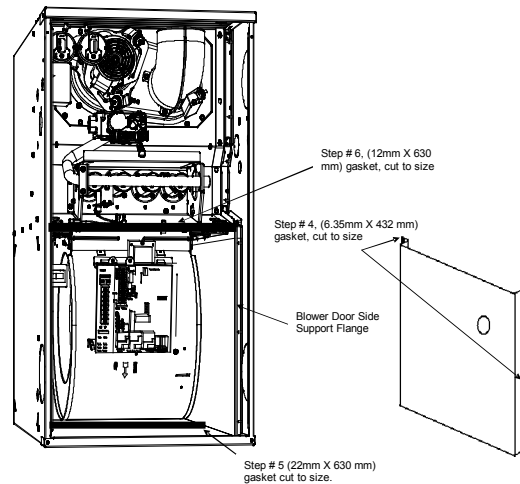

Fig. 1 - Gasket Placement
3. Remove the blower door side support flanges by removing three screws on the side of the casing. (See Fig. 1).
4. Peel paper backing from the two 1/4" x 17" (6.4mm x 432mm) foam strips and apply the gasket to the blower door edges facing towards the furnace such that the gasket is sandwiched between the door and the door supports. Cut the edges if necessary. (See Fig. 1).
backing from foam strip and apply to the bottom plate of the furnace. (See Fig. 1).
6. Cut 3 1/64" x 24 3/4" (12mm x 630mm) V notched foam strip to fit the width of the cell panel. The V notches may be used as a reference for various casing widths. Peel paper backing from foam strip and apply to the cell panel flange at the top. (See Fig. 1).
7. Re-install the blower door support flanges such that the newly installed gaskets are held in between the cell panel support and the support flange. (See Fig. 1).